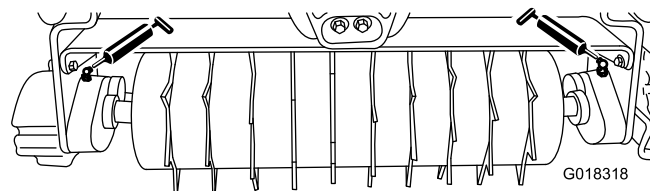

Figure 5
Lubricate the 2 grease fittings (Figure 5) on each spiker unit after every 15 hours of operation using a #2 multi-purpose lithium-based grease. For best results, a hand operated grease gun is recommended.
2. Apply grease to the spiker shaft bearings until you feel pressure (Figure 5).